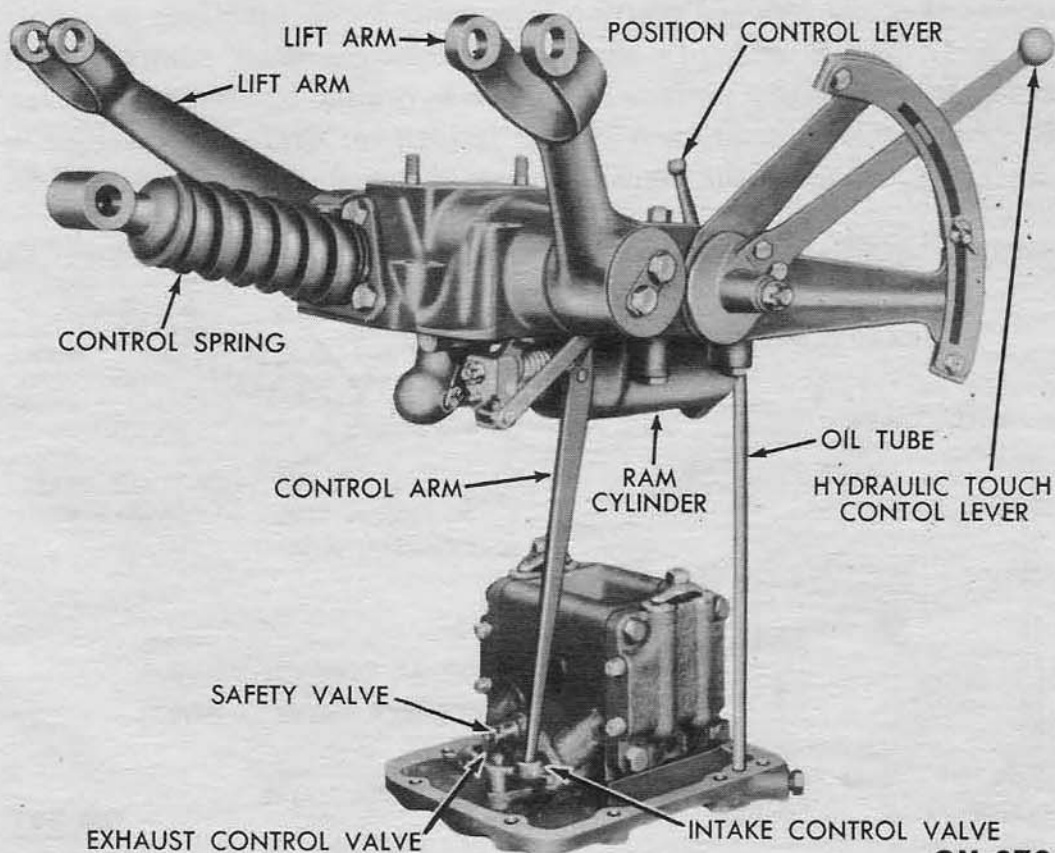
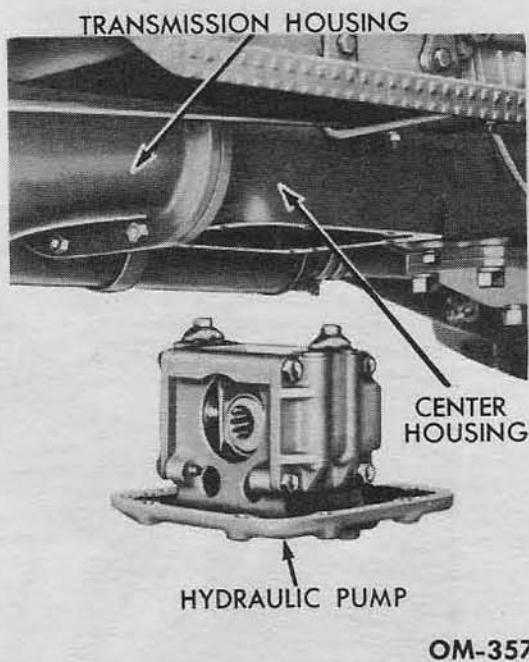

Fig. 60—Hydraulic System
Fig. 64—Hydraulic Pump Replacement
a. Ram Cylinder. The ram cylinder and piston are used to support the lower links. Fig. 60 shows the ram cylinder. When there is no oil in the ram cylinder, the links are in the lowered position. The links are in the raised position when the ram cylinder is full of oil. Inter-
unit into the center housing. As the hydraulic unit is being lowered, carefully fit the control arm into the socket in the control valve arm (fig. 60). Before securing the unit, move the hydraulic touch control lever, and check to determine whether the control valves follow the lever movement without binding. After the hydraulic unit is in position, insert the cap screws, and install the inspection plate. Attach the lift rods to the lift arms. Attach the control spring to the yoke. Install the tractor seat.
To install the hydraulic pump, remove the inspection plate on the right side of the center housing. Insert the pump into the center housing (fig. 64). Make sure the control arm enters the socket on the control valve arm (fig. 60). Install the pump base cap screws, but do not tighten. Install the power take-off shaft as outlined in section 372. Tighten the pump base cap screws before filling the transmission with oil.